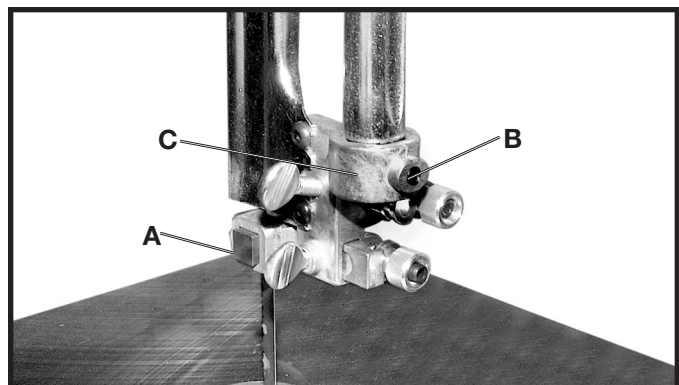

Fig. 54
3. Check the upper blade guide assembly. The blade guides (A) Fig. 54 should be parallel to the blade. To adjust, loosen the screw (B) and rotate the complete guide assembly (C). When the blade guides are parallel with the blade, tighten the screw (B).